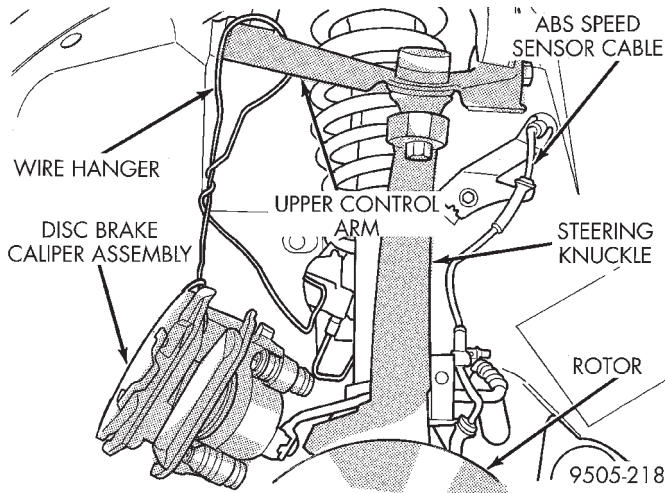

Fig. 80 Supporting Brake Caliper
(5) Support brake caliper/adaptor assembly using a wire hook and not by hydraulic hose (Fig. 80).